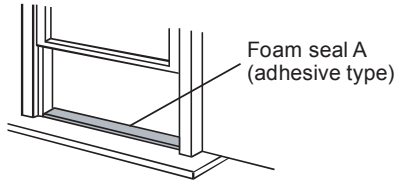

Fig. 8
1. Cut the foam seal (adhesive type) to the proper length and attach it to the windowsill. See Fig. 8